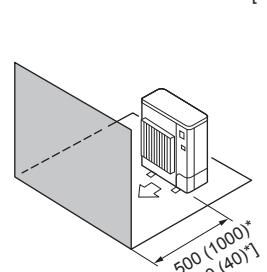

Fig. 2-9
④ Obstacles at front only (Fig. 2-9)